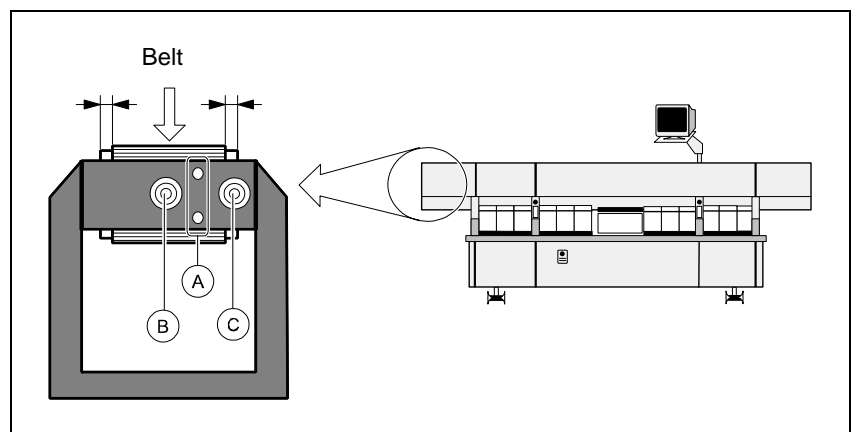

Figure 4-5. Adjusting X belt pulley
3. Loosen the A and B fixing screws somewhat, see Figure 4-5.